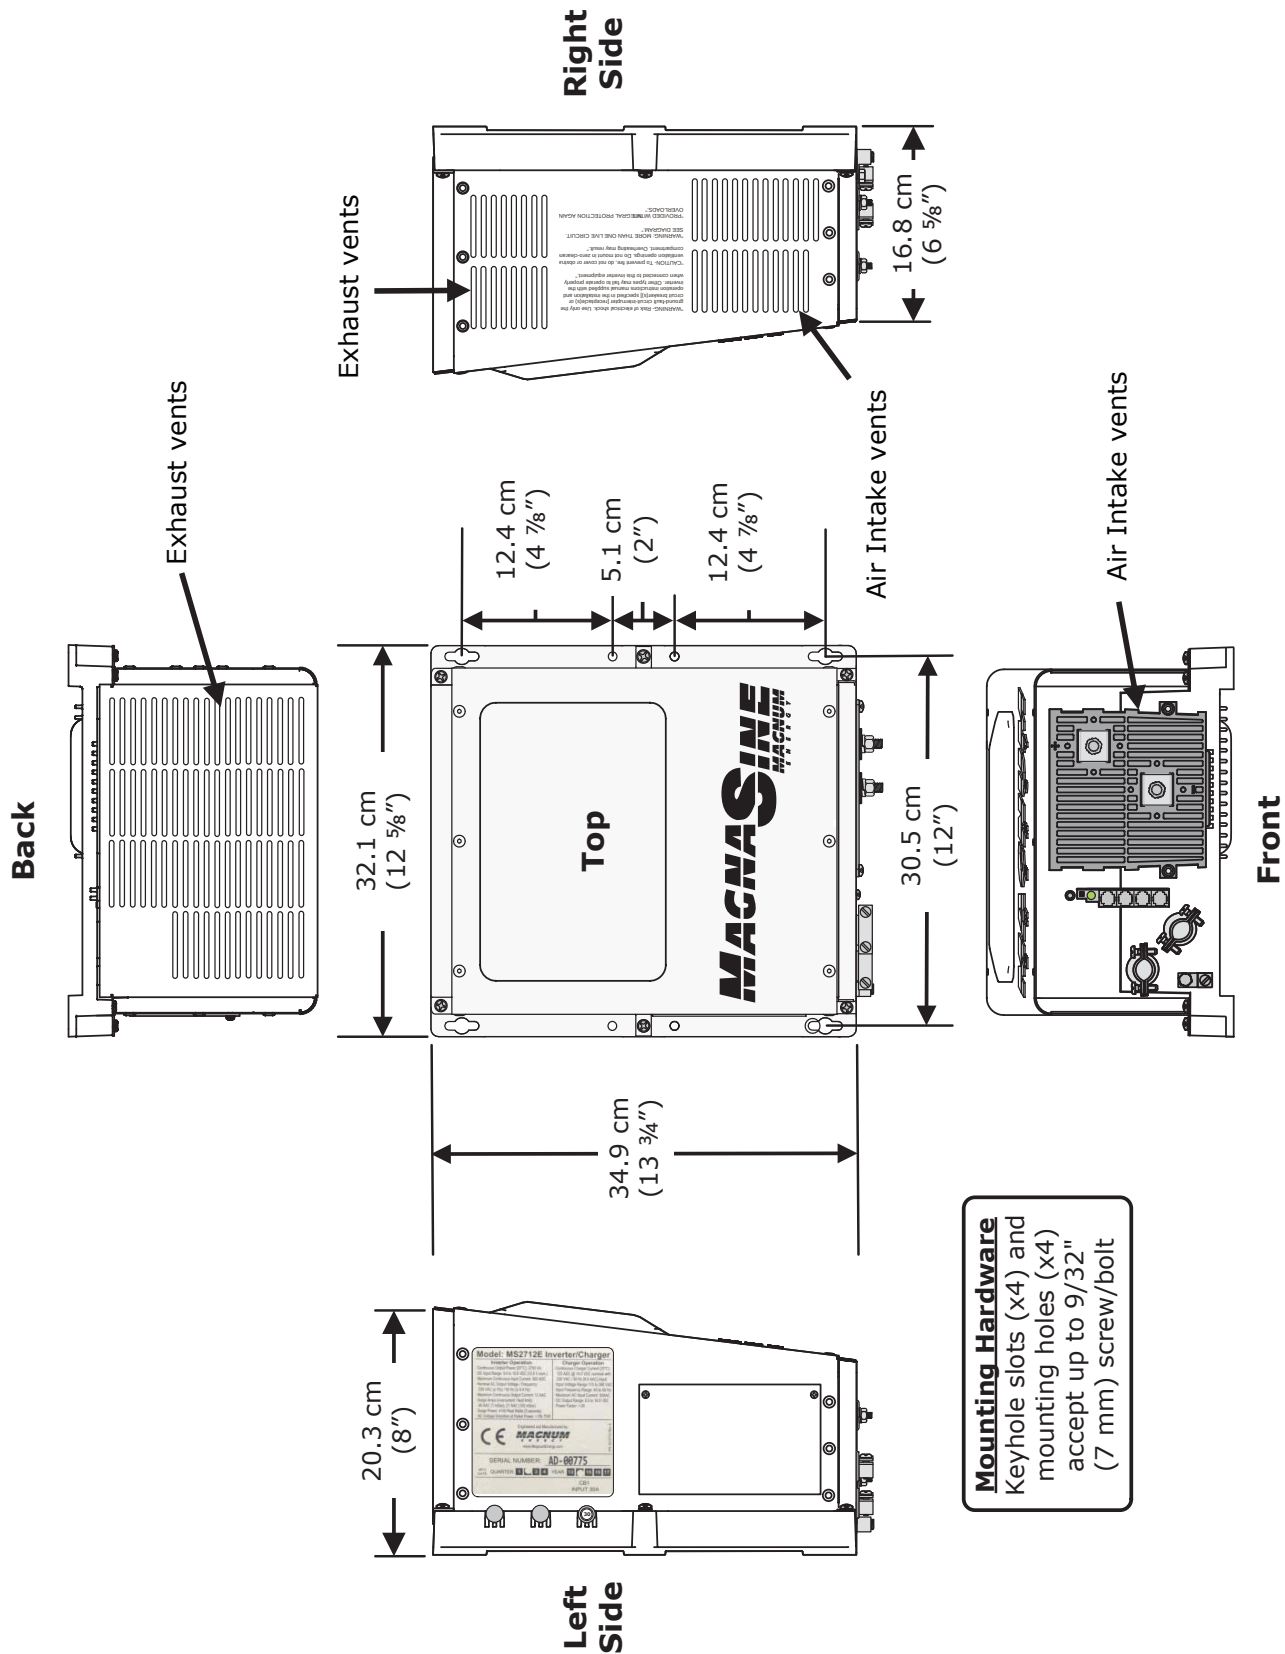

Figure 2-3, MS-E Series Dimensions and Side Reference
- 9 Intake Air Vents** – ventilation openings to pull in air to help keep the inverter cool for peak performance. The intake air vents are located on the front side and at the front on the right side; see Figure 2-3 for the locations of the air vents.
- 13 Exhaust Air Vents** – ventilation openings that allow heated air to be removed by the internal cooling fan. The exhaust air vents are located on the back side and at the rear on the right side; see Figure 2-3 for the location of the air vents.
Accessible – Do not block access to the inverter's remote control and accessory ports, as well as the inverter's controls and status indicator. Also allow enough room to access the AC and DC wiring terminals and connections, as they will need to be checked and tightened periodically. See Figure 2-3 for the MS-E Series' inverter/charger dimensions.
After determining the mounting position, refer to the physical dimensions as shown in Figure 2-3, or use the base of the inverter as a template to mark your mounting screw locations. After marking the mounting screw locations, mount the unit with appropriate mounting hardware.